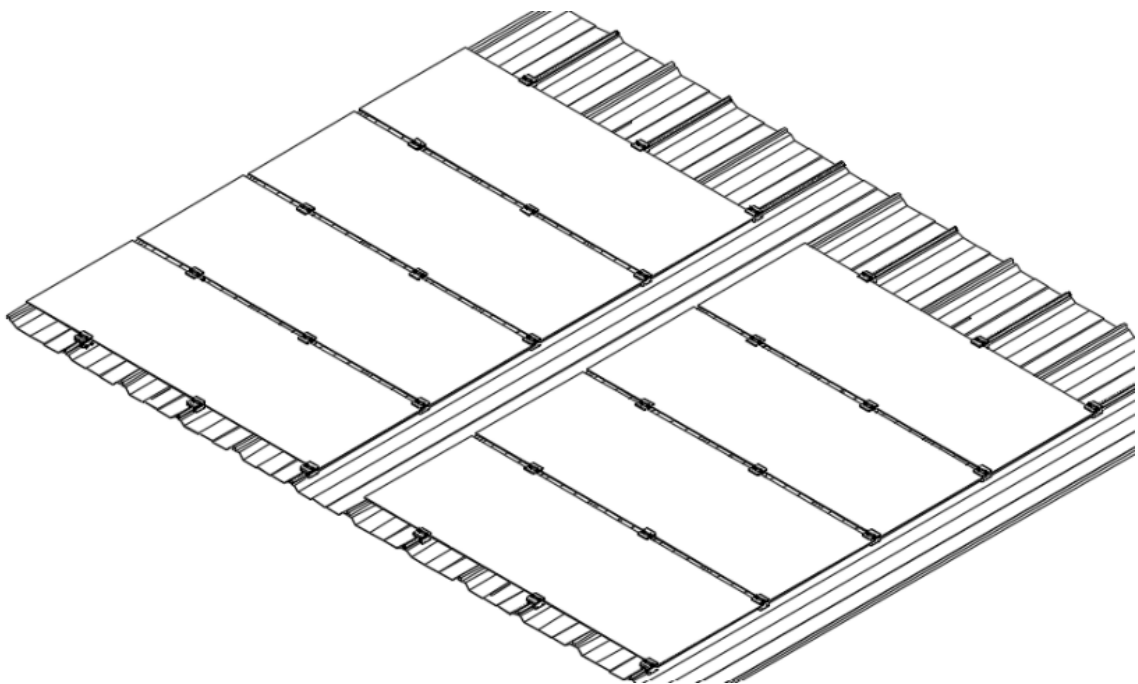

FIGURE 16
⑫ The second row of products is installed with reference to the first row of installation, and then the third and fourth rows are installed in turn until the installation of all products is complete (Figure 16);